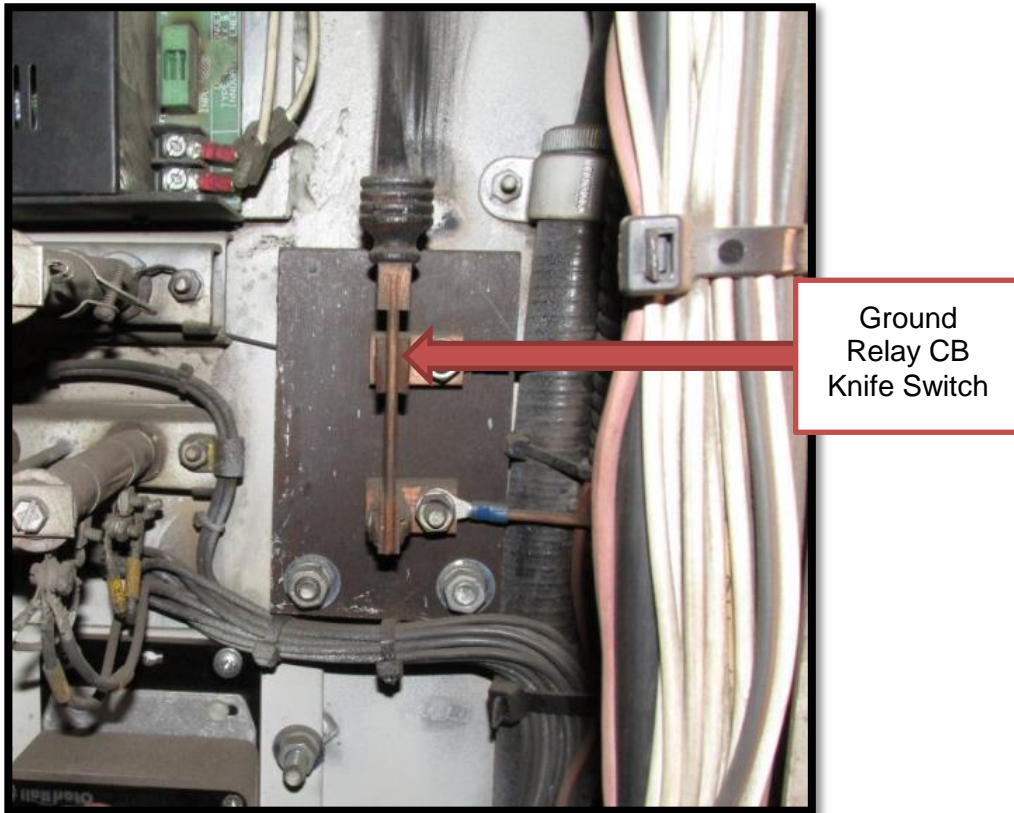

Figure 23: Ground Relay Circuit Breaker Knife Switch
5. Check that the Ground Relay circuit breaker (*Figure 23*) is “closed”. This is a single blade knife switch on the right in the electrical cabinet.